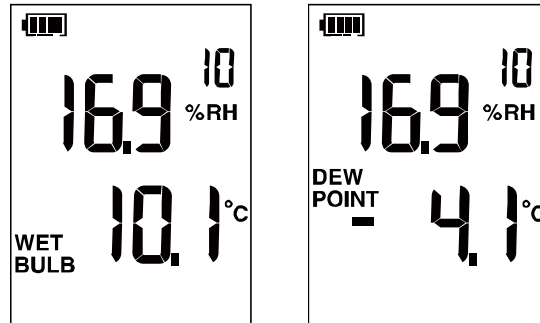

Figure 5. Wet bulb and dew point temperature
- **Wet bulb temperature**, **WET BULB** shows on the screen, as shown on the left in Figure 5.
- **Dew point temperature**, **DEW POINT** shows on the screen, as shown on the right in Figure 5.